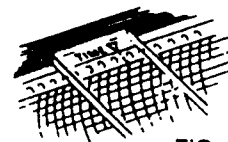

FIG. 8
- C. Line up time arrow (see Fig. 8.) with any time line on left of strip chart. This will synchronize the travel chart with the time lines on the chart.